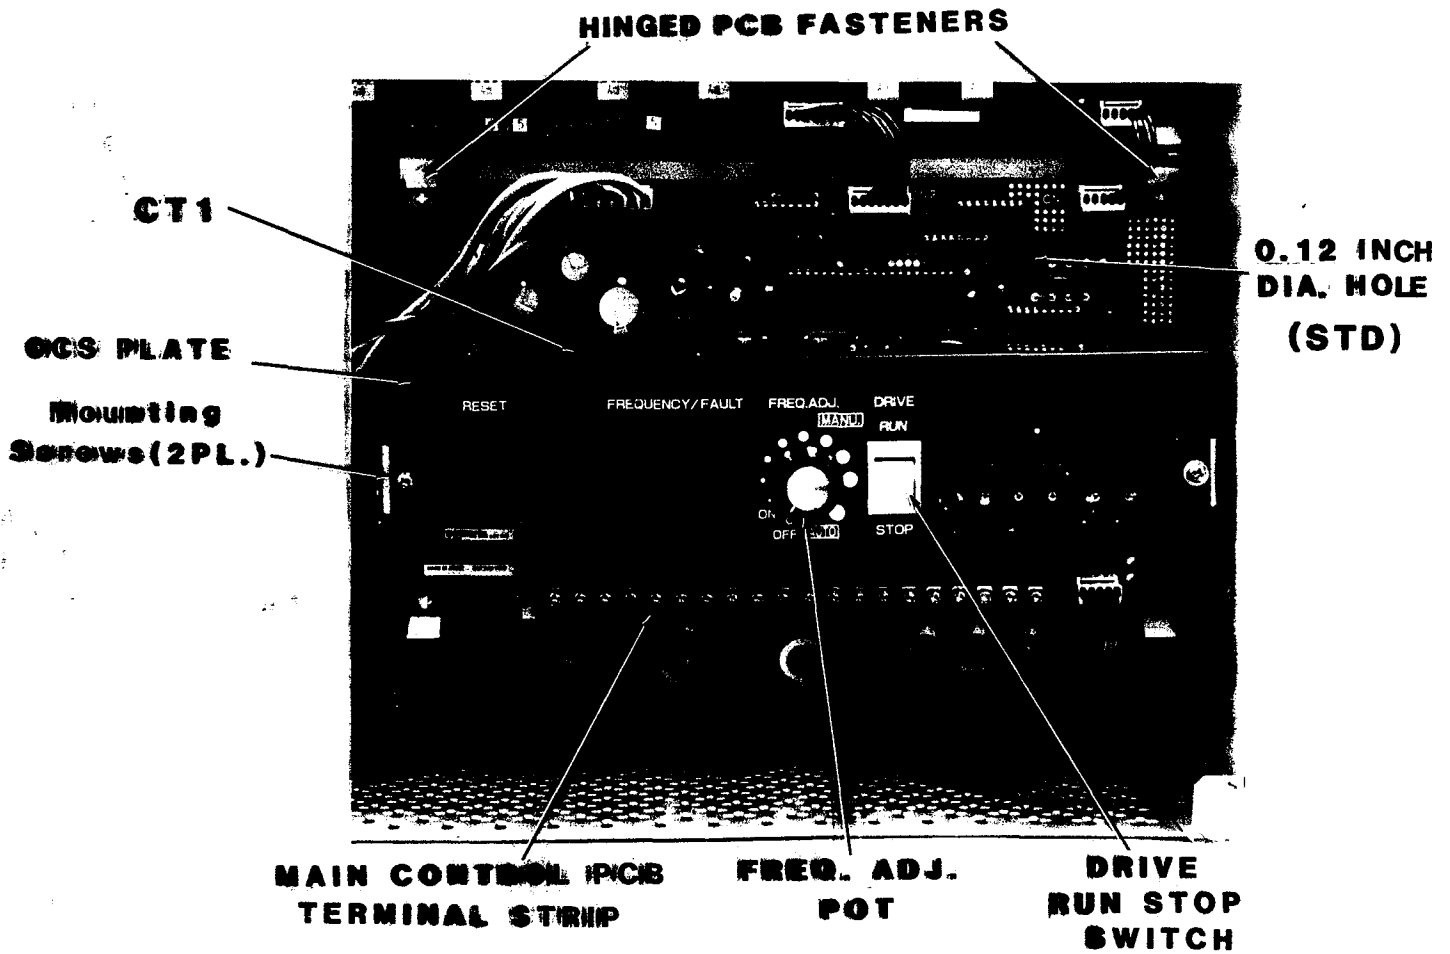

FIGURE 2.
4. See Figure 2. Remove and retain the two screws which secure the existing Operators Control Station (OCS) plate.
5. See Figure 2. Remove the **FREQ. ADJ.** pot and the **DRIVE RUN-STOP** switch from the OCS plate. Disconnect component wires at the Main Control PCB terminal board, and discard these two components.
a. See Figure 2. The Main Control PCB is held in place by (4) hinged locking PCB fasteners. Grasp the
b. See Figure 2. Insert one set of mounting hardware thru the 0.12 inch diameter hole designated "STD" on the Main Control PCB from the rear side.
18. See Figure 2. Connect the CT1 female connector of the Dual 2.5K ohm pot assembly to the 5 pin CT1 male plug located on the Main Control PCB. Ensure pins labeled N15 on both connectors ALIGN WITH EACH OTHER.